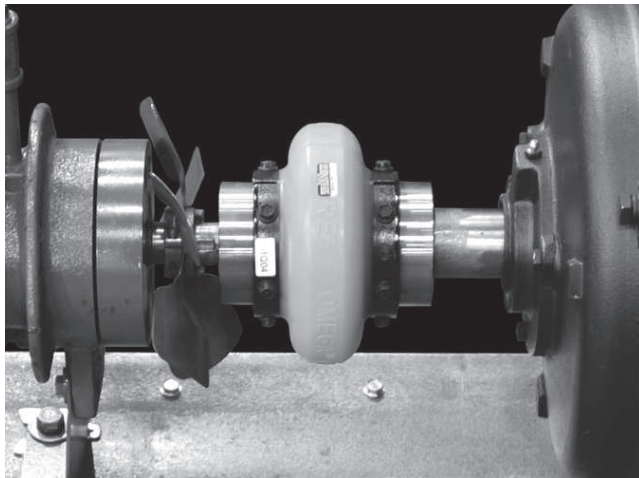

FIGURE 23 - PUMP COUPLING
12. Check the tightness of all couplings, including the fuel oil pump drive (oil-fired units), fan impeller, circulating pump, etc. See Figure 23.